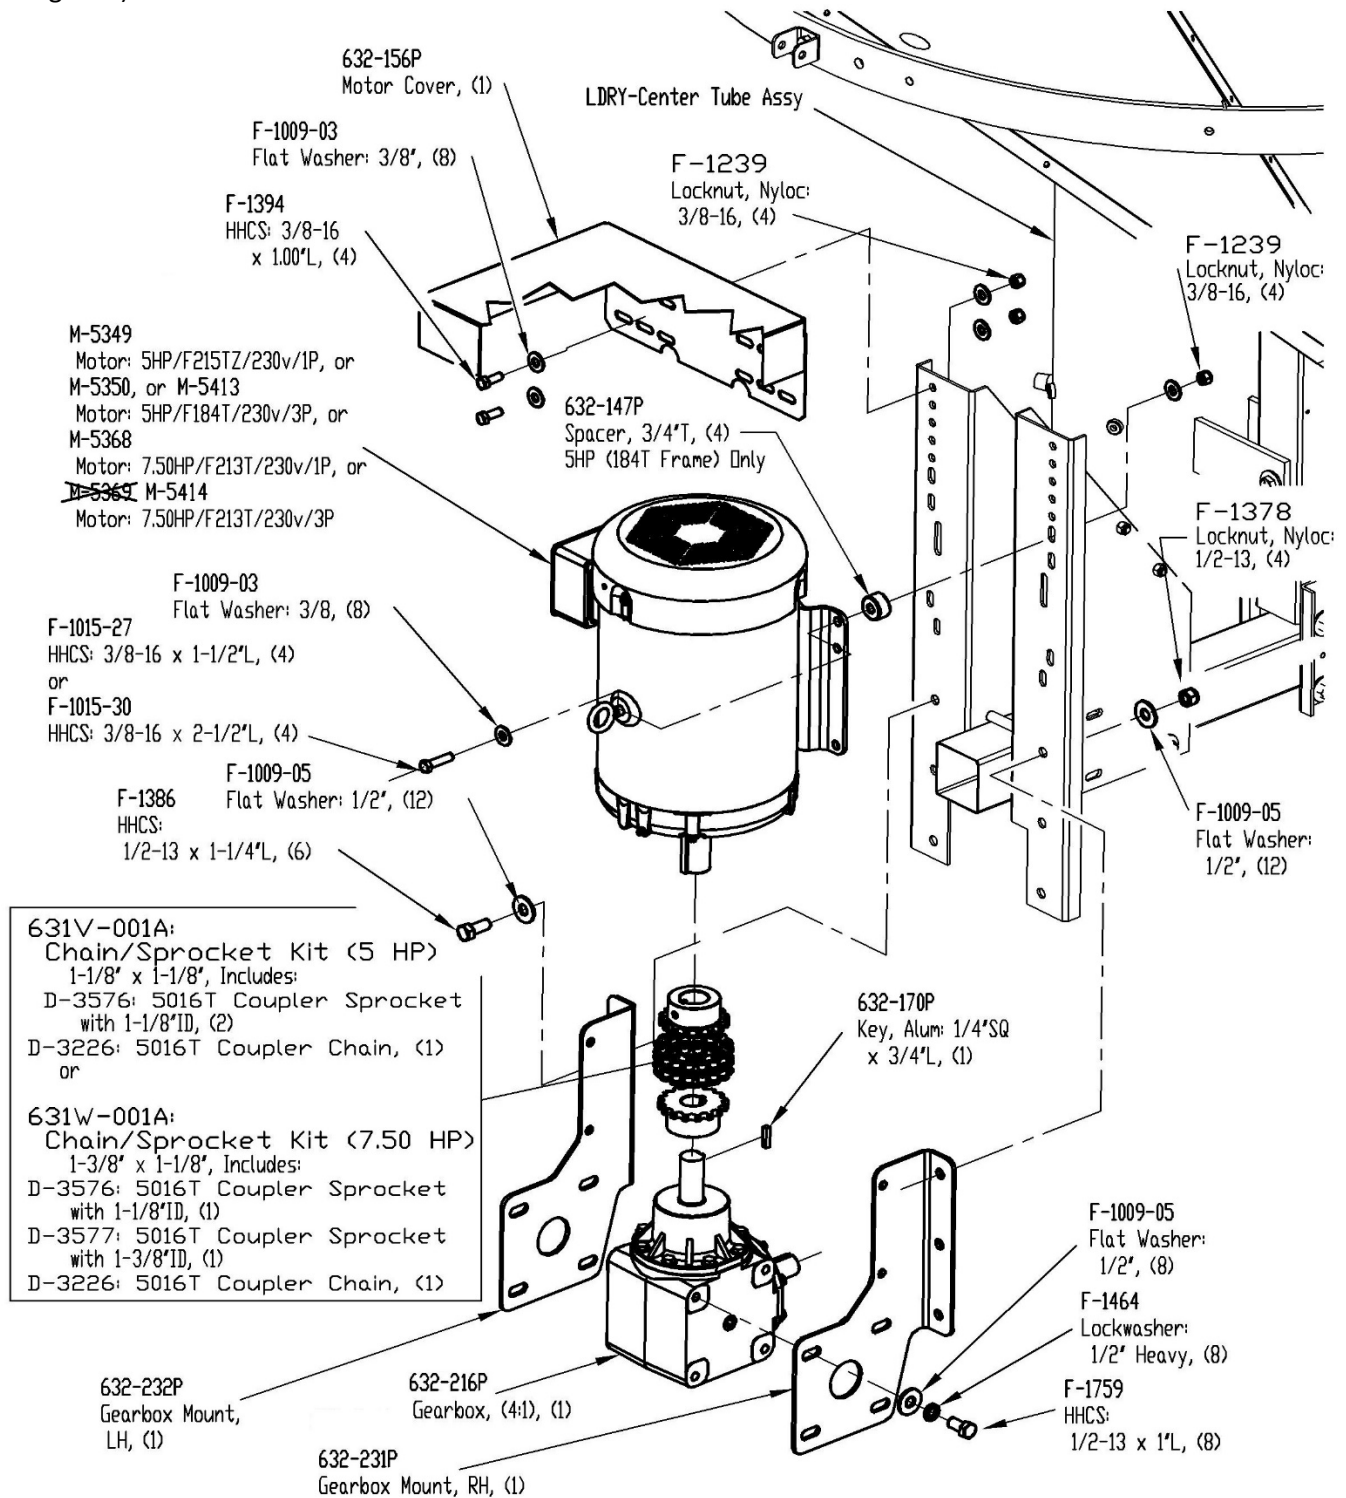

Fig 9.2a
**9b. Install RH & LH Gearbox Mounts:** (See Fig 9.2a, p.34)
(See Fig 9.2a)